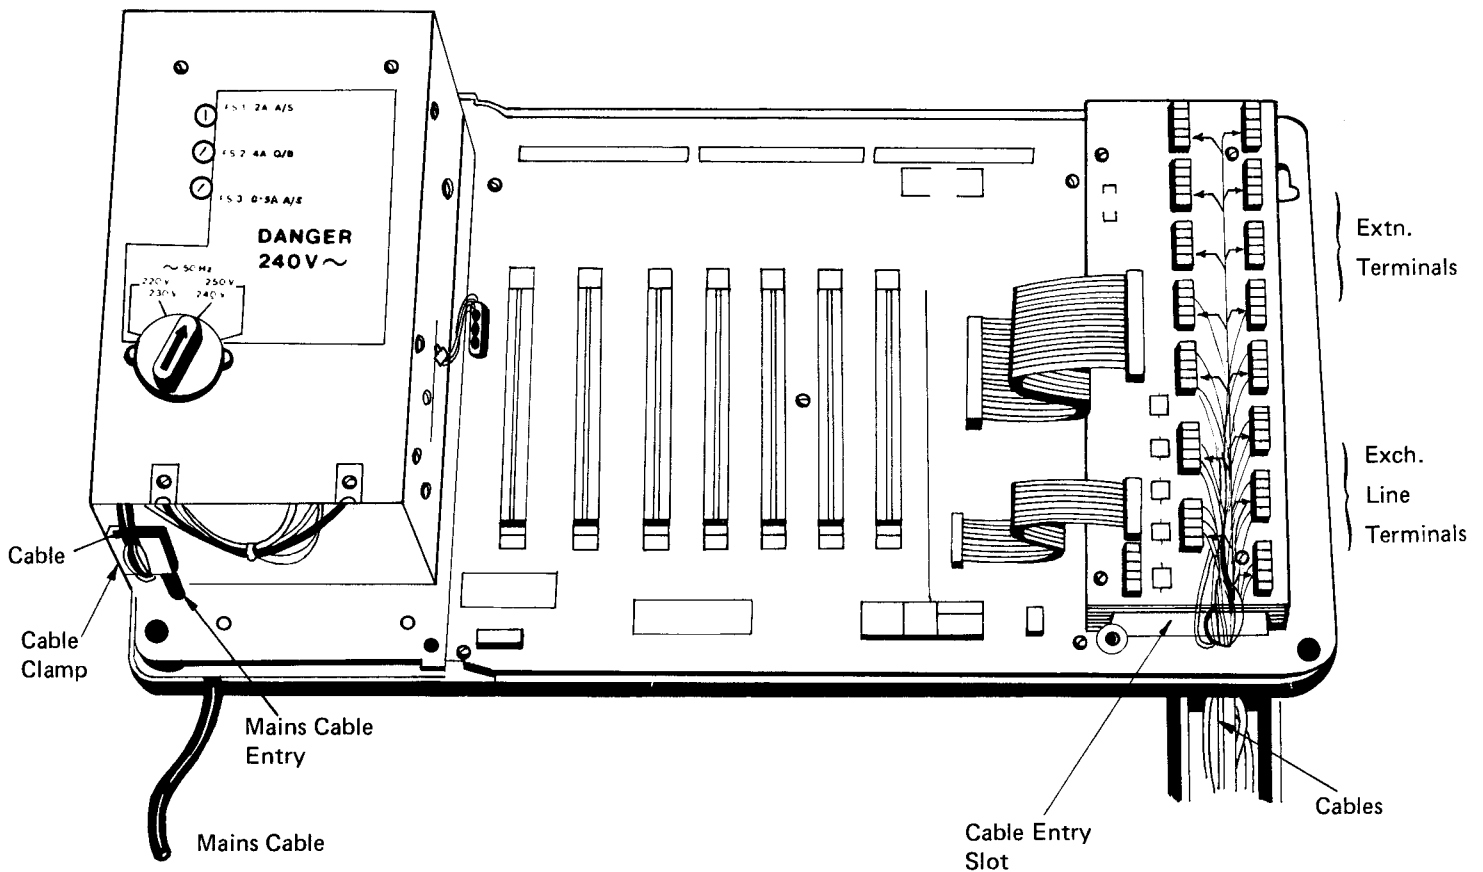

Fig. 4. PSU in position on Rear Mounting Assembly.
- vi. Connect the mains cable to the PSU. A mains cable, not more than 3m long must be obtained locally, and terminated to the terminal block which with its associated cable clamp is mounted in the bottom of the PSU, see Fig. 4.